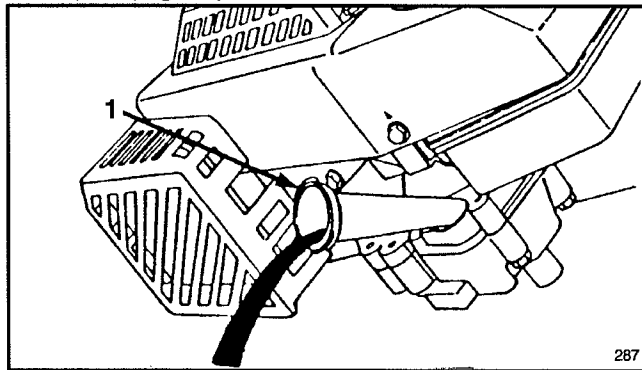

Figure 18
7. Tip mower on its left side, allowing oil to drain into drain pan (Fig. 18).